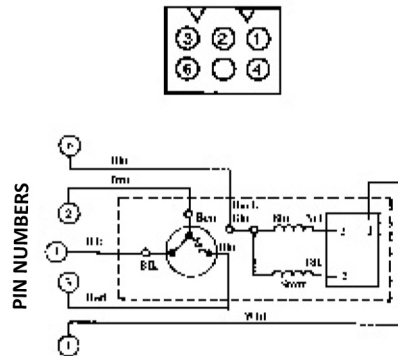

Figure 12. Pin Numbers.
3. Problems in the gear motor electrical circuit. See Figure 12.
NOTE: Gear motor and related components can be checked from Pin Connector. See Figure 12.